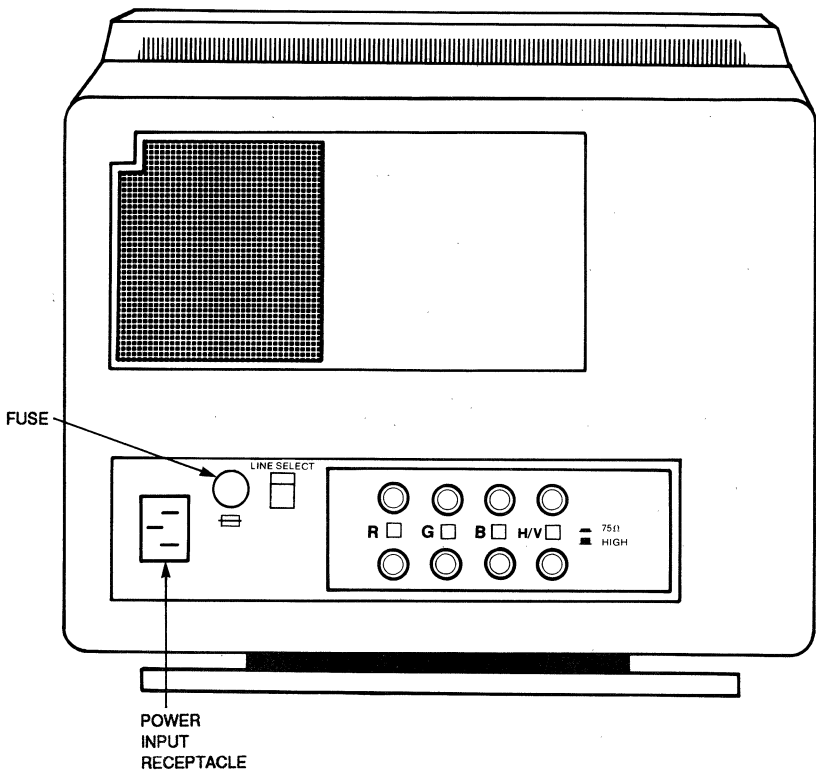

Figure A-2: Monitor Back Panel for Fifteen-inch 60-Hz Monitor
- The fuse protects the circuit. See the information printed next to the fuse for type and rating requirements. (See Figure A-2.)
- The power selector switch selects the power voltage. See the information printed on the switch for power requirements. (See Figure A-2.)